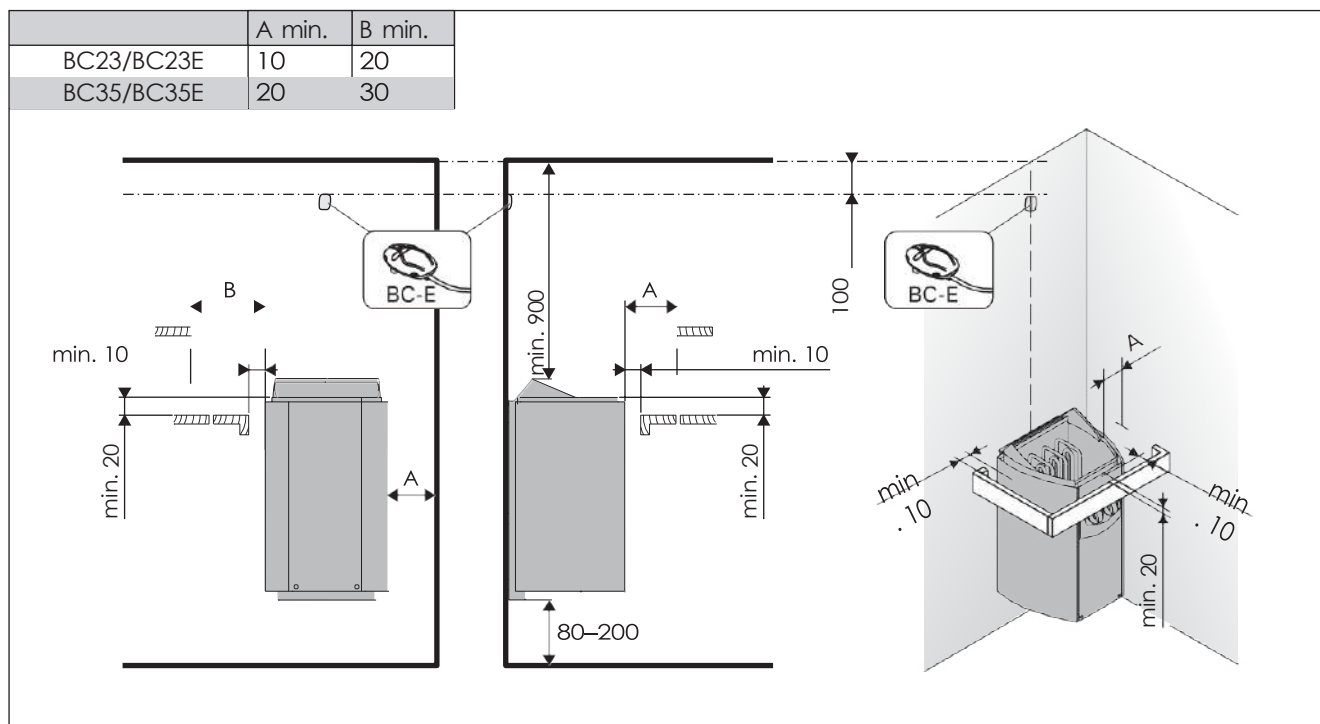

Figure 6.
- The location of the heater fulfils the minimum requirements concerning safety distances given in fig. 6 and table 2.
The control unit includes detailed instructions for fastening the unit on the wall. Install the temperature sensor on the wall of the sauna room above the heater. It should be installed on the lateral centre line of the heater, 100 mm downwards from the ceiling. Figure 6.